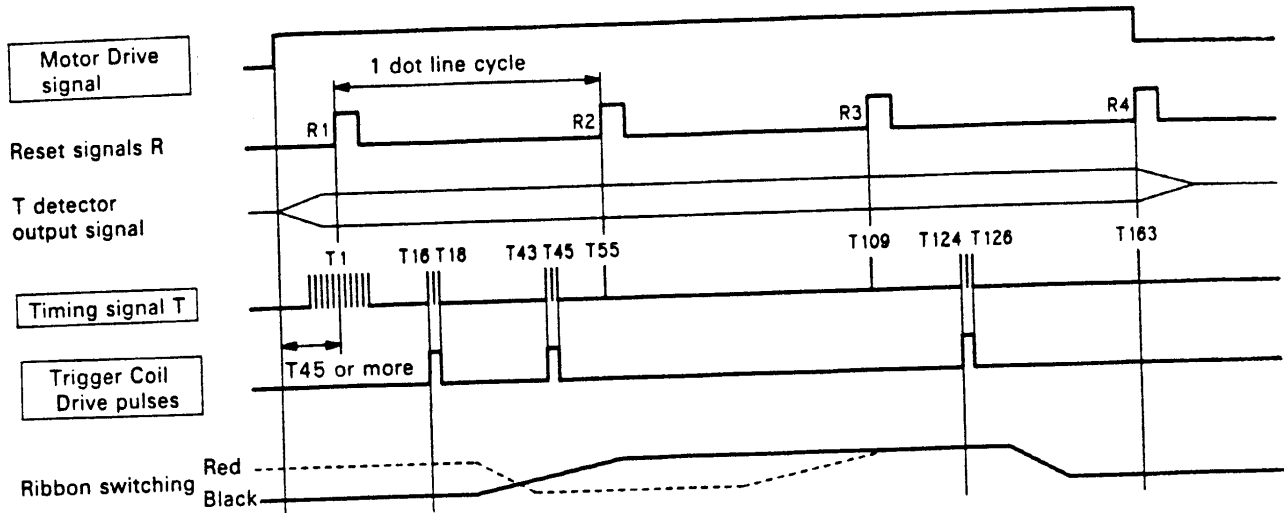

Fig. 1-31. Timing Chart of Initialization (Model-262)
1. Initialization (see Fig. 1-31)